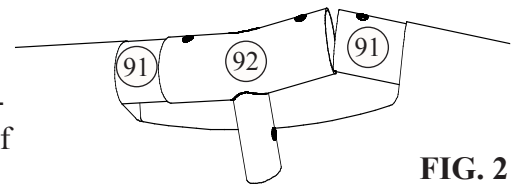
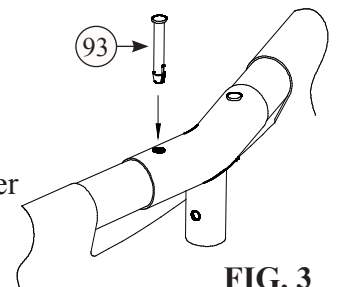

FIG. 2
FIG. 3
3. When you get to the last connection, install the last Tee Fitting on the end of one of the beams. Lift up on both of the last two Beams in order to get them to insert into the Tee Fitting. Angle them towards each other and guide the Beam into the Fitting as you lower them both down together. See Fig. 2. This step may require two people. Now, begin inserting the Pins (93) down through the top of the Tee Fittings until the Pin snaps into place on the lower side of the Fitting as shown in Fig. 3.